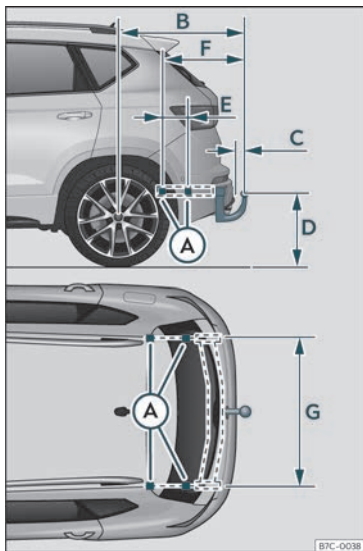

Fig. 251 Limits and attachment points for retrofitting a towing bracket.
The distance between the centre of the ball head and the road >>> **Fig. 251** (D) must never be less than indicated. This also applies when the vehicle is fully loaded, including the technically permissible maximum vertical load on the coupling device.
Distance specifications >>> Fig. 251: